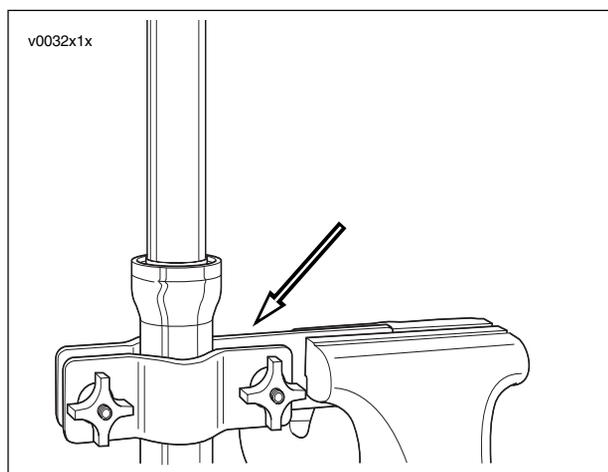

Figure 1-47. Fork Tube Holder (HD-41177)
6. Loosen upper and lower triple clamp pinch screws (1).
8. See Figure 1-47. Use FORK TUBE HOLDER (HD-41177) to clamp fork in vise without damaging the slider tube.
10. Remove spring collar (3), washer (4), and spring (5).
12. See Figure 1-47. Position the fork tube in the FORK TUBE HOLDER.